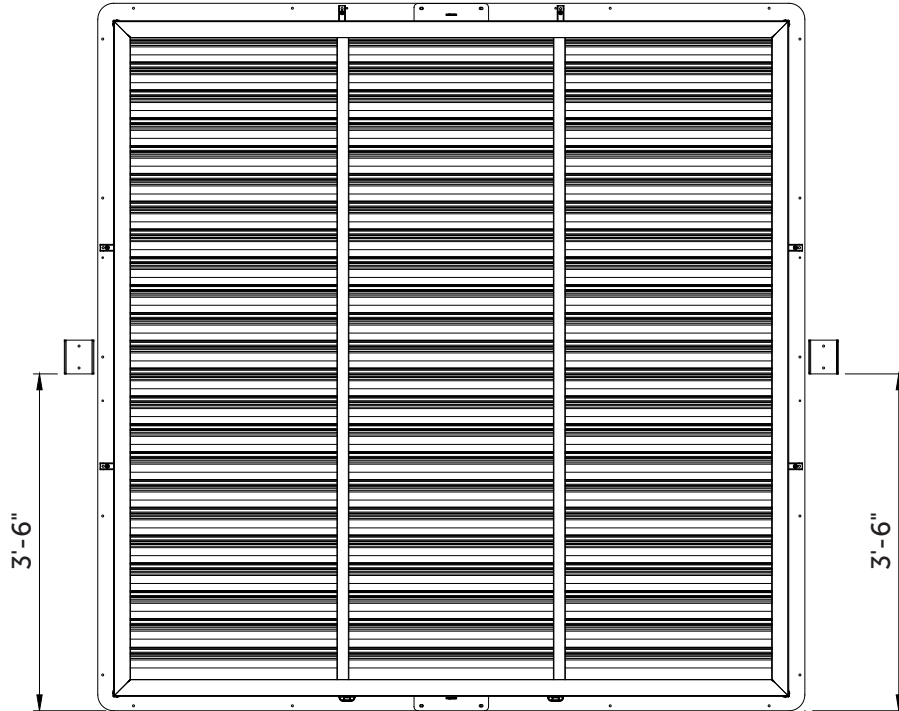

Figure 14A
Mount one Wind Kit Bracket on each side of fan, 3'-6" above the bottom flange of fan. The opening in the 'U' slot should be facing up and each Bracket should be mounted in same direction. *See Figure 14A.* Fasten Brackets in place using (2) Lag Screws (not provided). *See Figure 14B.*